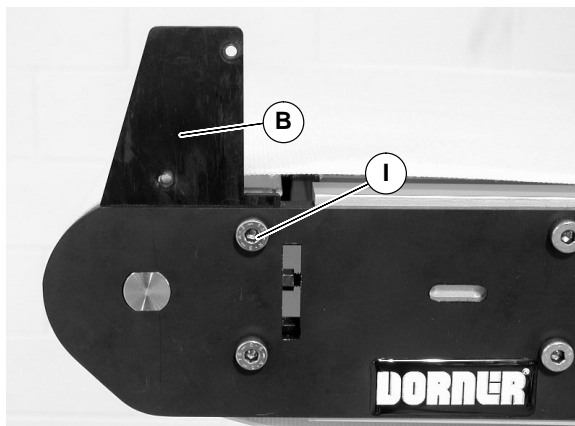

Figure 6
- Replace with new spacer plates (B of Figure 6). Insert screw (I) hand tighten.